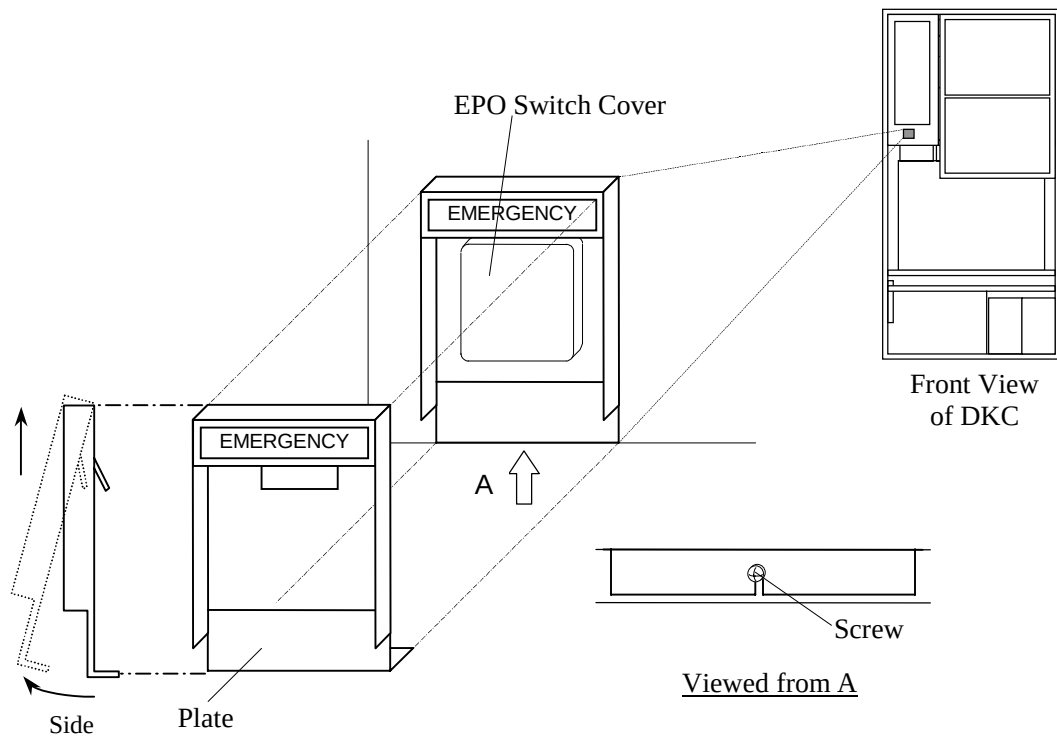

Fig. 3.14-1 Removal of Plate
- j. Attach the plate and fasten the screw. Refer to Fig. 3.14-1.